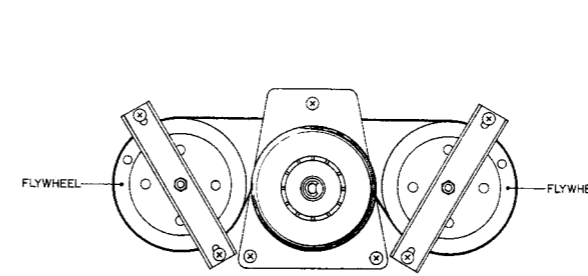

Fig. 3
1. CAPSTAN SHAFT LOOSE PLAY ADJUSTMENT (Refer to Figs. 3 and 4)